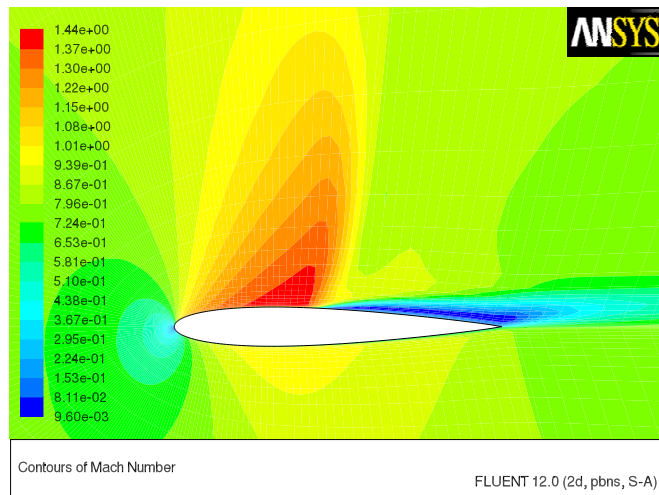

Figure 3.12: Contour Plot of Mach Number
2. Display filled contours of Mach number (Figure 3.12).
- (d) Zoom in on the region around the airfoil, as shown in Figure 3.12.
Note the discontinuity, in this case a shock, on the upper surface of the airfoil in Figure 3.12 at about $x/c \approx 0.45$.